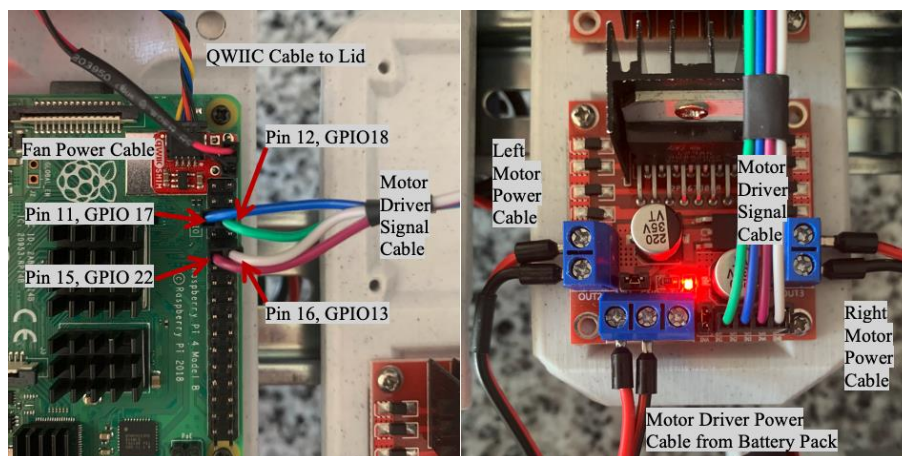

Figure 1: GPIO and H-Bridge pin connections
- a. Two of the motor cables will be used to connect motors to the H-bridge and the third cable connects to the battery pack. Connect the motor cables to the two blue outer terminals of the H-bridge and the battery cable to the center terminal with three inputs. These are shown on the bottom of the H-bridge in figure 1. Make sure to match the color of your cables with those shown. Also ensure you are using the correct two inputs for the power terminal; one will have no connection.
- b. Then, connect the PWM signal cable to the pins on the opposite end of the H-bridge from the power supply. Open the Pi's enclosure and connect the pins to the GPIO header as shown in figure 1. The physical pin numbers are 11, 12, 15, and 16. They should each connect to a green, blue, violet, and grey cable respectively. Double check this step since it's easy to mix up the small pins.